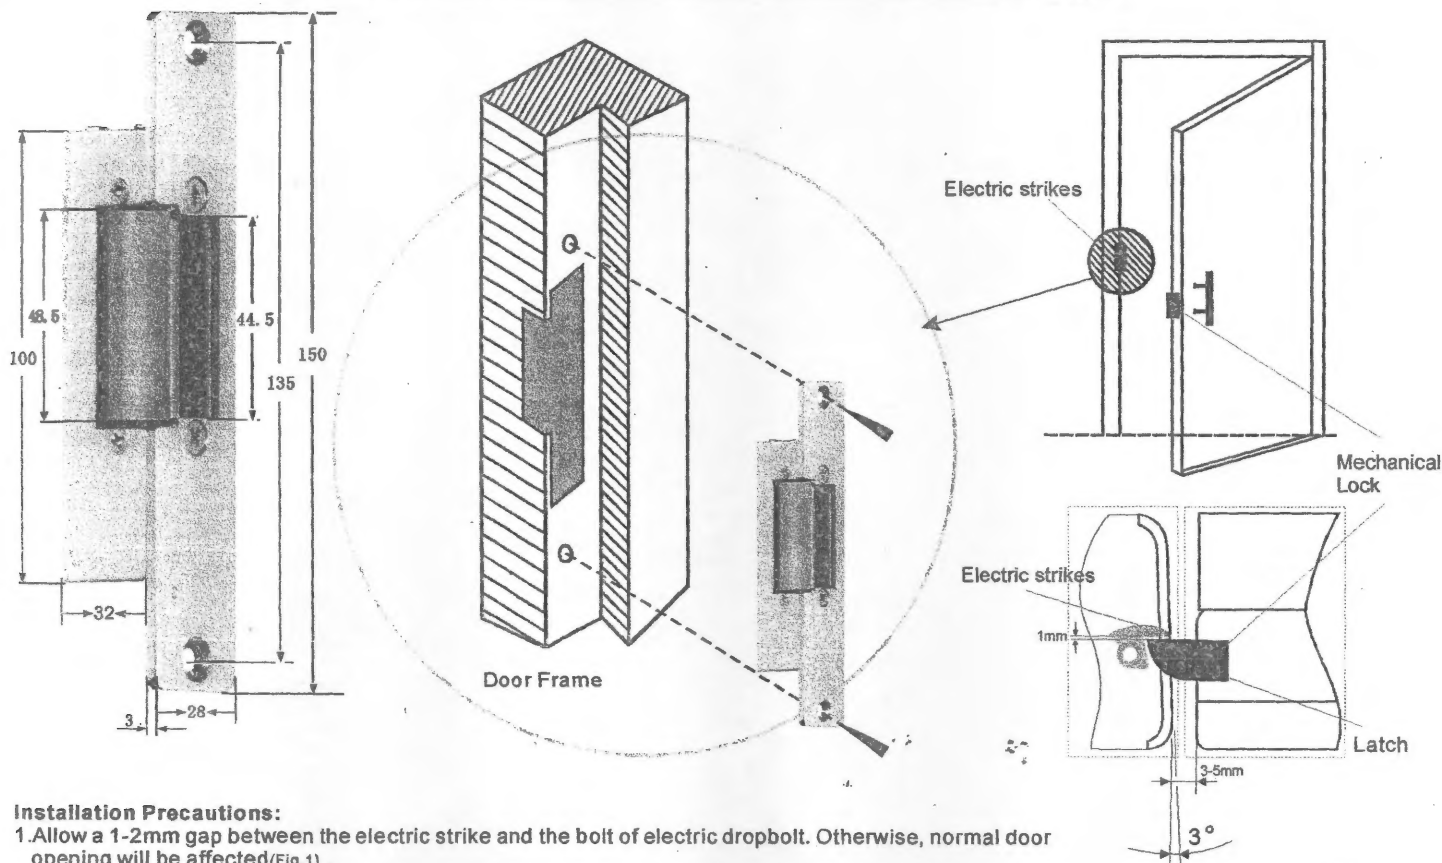

Fig.1
1. Allow a 1-2mm gap between the electric strike and the bolt of electric dropbolt. Otherwise, normal door opening will be affected (Fig.1).
2. Allow a 3-5mm gap between the electric strike and the face plate of electric dropbolt. Otherwise, smooth door closing will be affected (Fig.1).